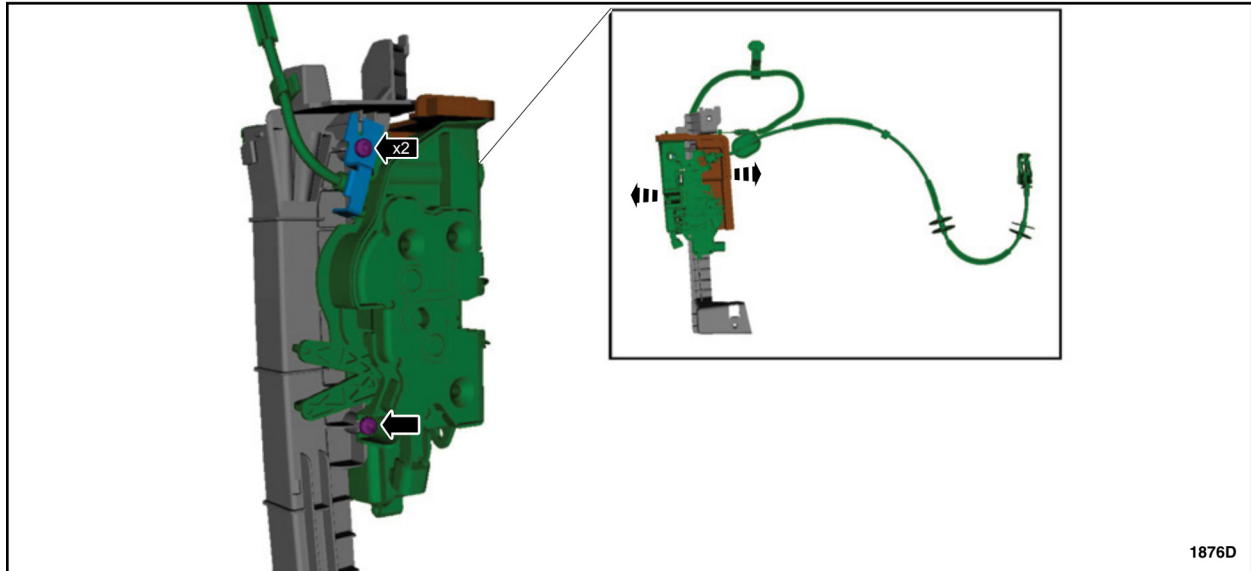

FIGURE 11
15. Remove the retainers and separate the door latch components to gain access to the actuator. Note the components position and orientation for reassembly. See Figure 11.
20. Reassemble the latch components and then install the retainers. See Figures 11 and 12.